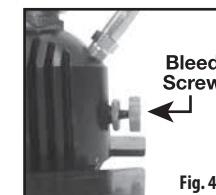

Fig. 4
7. Make certain the bleed valve on the hand pump is fully closed (tighten in a clockwise direction) (Fig. 4).